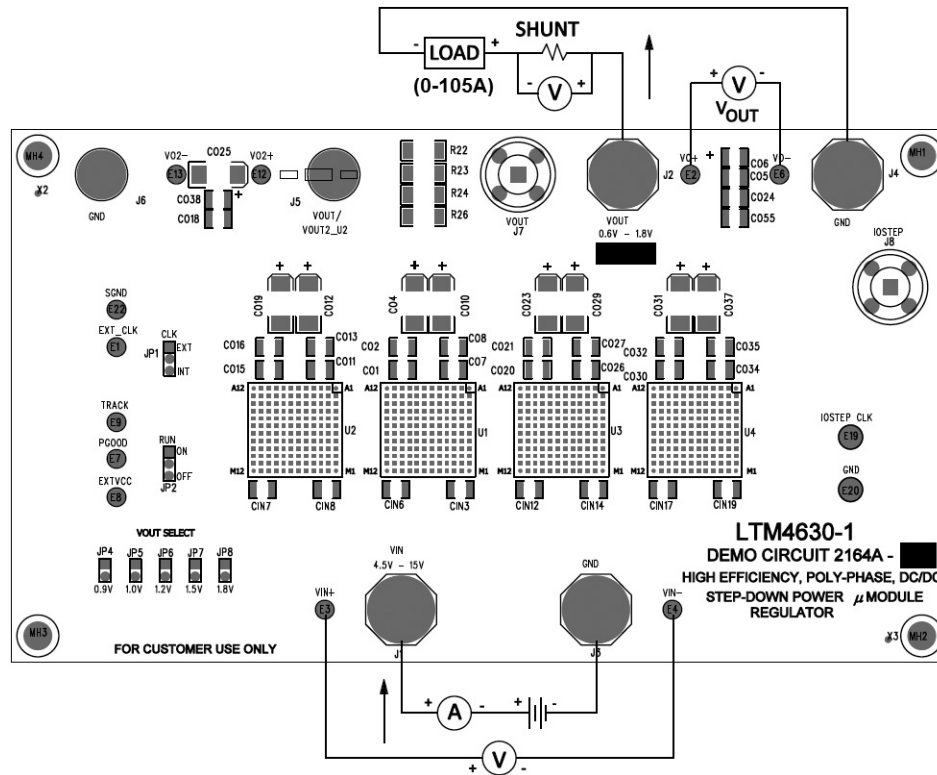

Figure 2. Test Setup of DC2164A-B
Demonstration circuit 2164A-B is easy to set up to evaluate the performance of PolyPhase operation of the LTM4630EY-1. Due to the high input/output current, user should select the proper input supply/load/cable which can sustain the full load operation. It's recommended to pull load current from J2 and J4. The load current pulled from J5 and J6 shouldn't exceed 18A. Please refer to Figure 2 for proper measurement setup and follow the procedure below:
2. With power off, connect the input power supply, load and meters as shown in Figure 2. Preset the load to 0A and V_{IN} supply to 12V.